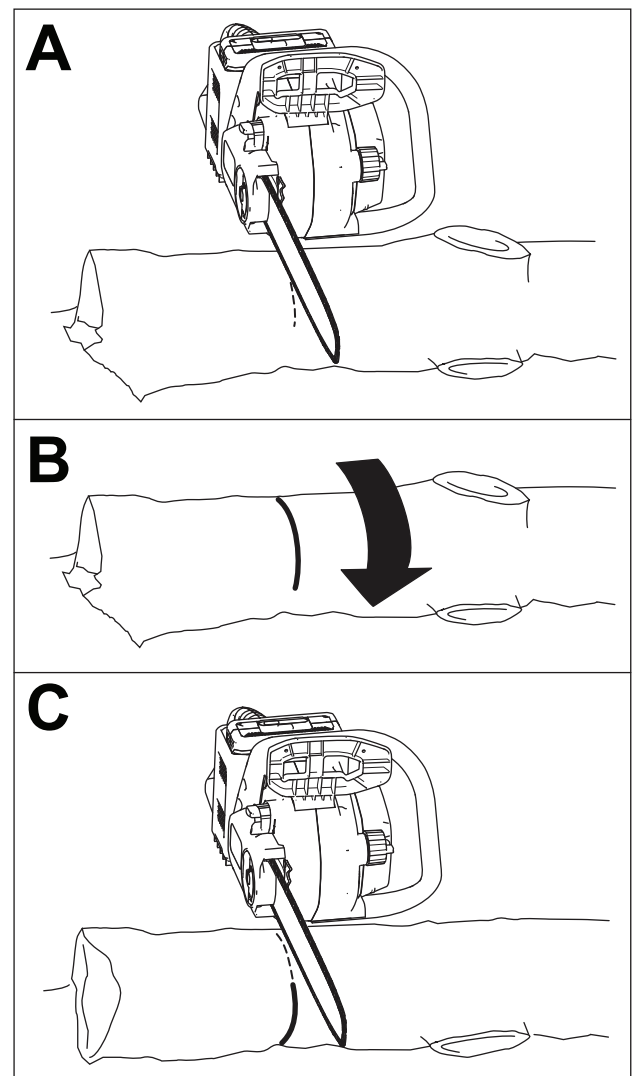

Figure 20
- If the log is supported on both ends but not in the middle, cut a third of the diameter from the top, then either cut from the bottom or roll the log over to meet the first cut (Figure 20).